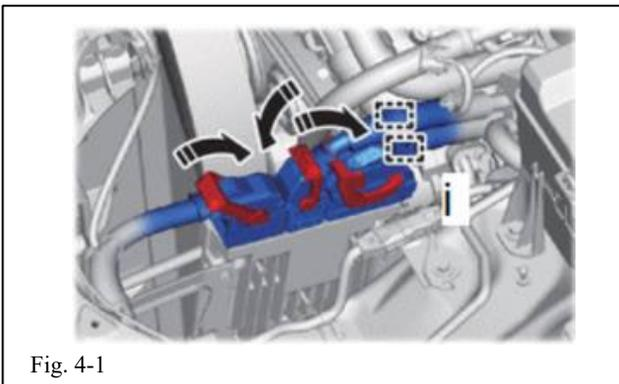

Fig. 4-1
- (1) Detach the two wire connector clamps (Fig. 4-1).
- (2) Push in the locks on the 3 levers, raise the 3 levers, and disconnect the 3 ECM connectors (Fig. 4-1).